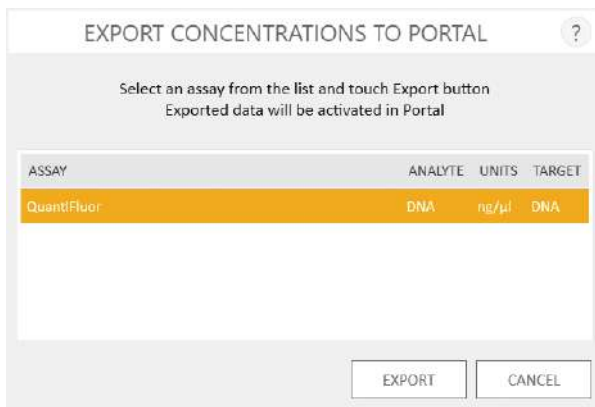

Figure 80. 'Portal Data Export' screen. Select the concentration assay into which concentration data should be imported and press the Export button.
2. The 'Portal Data Export' screen (Figure 80) lists all the concentration assays into which concentration data can be imported. Concentration assays are described in the *Portal Access Technical Manual #TM549*. Only assays which have a single concentration target are listed on the 'Portal Data Export' screen. Select the concentration assay into which concentration data should be imported.